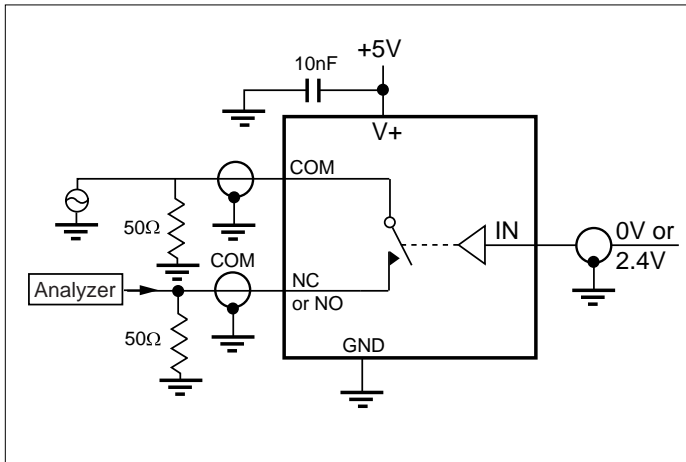

Figure 3. Off Isolation
- Off Isolation = 20log10 [VCOM / (VNO or VNC)]. See figure 3.